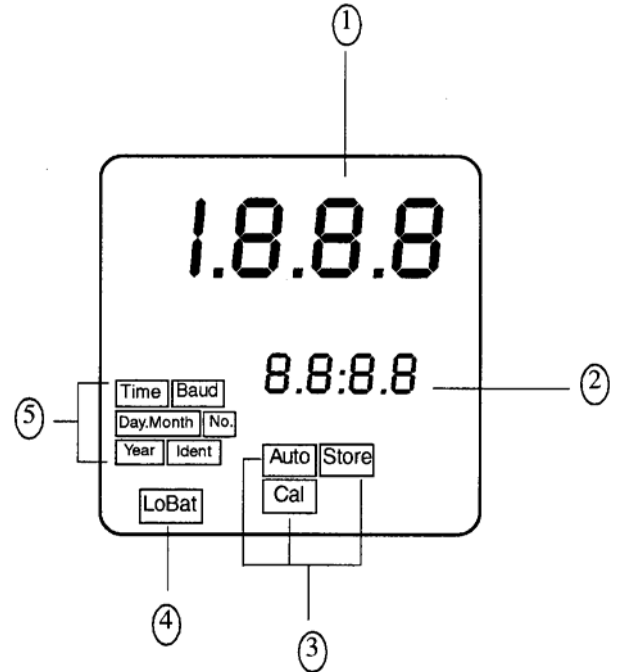

Figure 2
Figure 2 illustrates all the items that can appear on the display. The upper row of the display (1) is used for reporting the turbidity levels and to provide user guidance in the customer settings routine. The lower row of the display (2) is used to display the stored turbidity reading and to communicate error messages and user guidance. The display has several status indicators (3) which distinguish the operation of the instrument. In addition, the "LoBat" block (4) flashes when the batteries need to be replaced. Finally, several indicators (5) provide guidance when the customer settings routine is being used and when the calibration routine is being used.